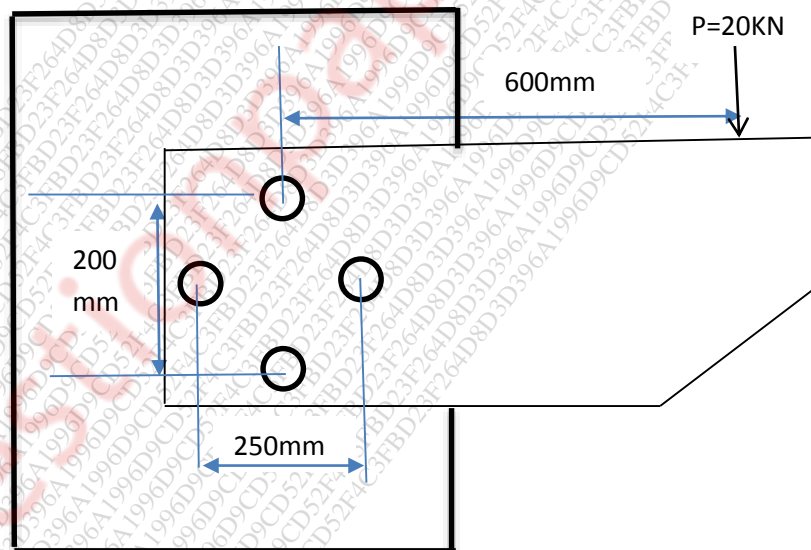

Fig. 2
- (b) A bracket is supported by four rivets of equal diameter as shown in figure 2, to support a load of 20kN. Determine the size of the rivet, taking the permissible shear stress as 60MPa. **10**